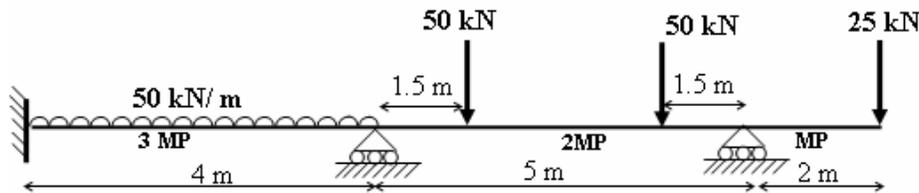

Fig.7
8. Determine the plastic moment capacity of a continuous beam shown in Fig.7. [16]